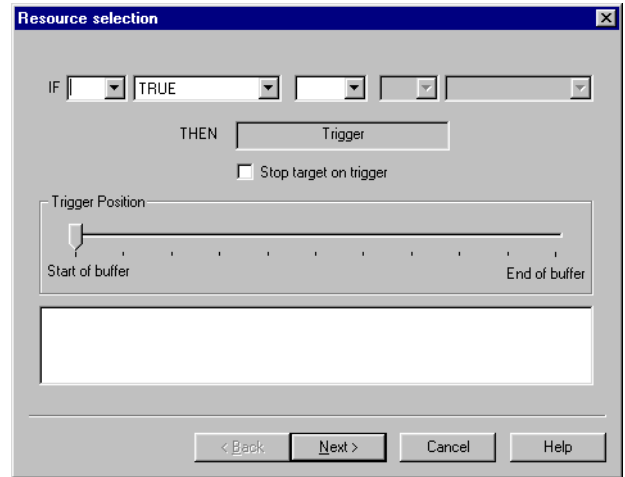

Figure 8-4 Resource selection for Trigger
5. Double-click **Trigger** in the Actions list to define a rule. The Trigger resource selection dialog box shown in Figure 8-4 on page 8-7 is displayed.